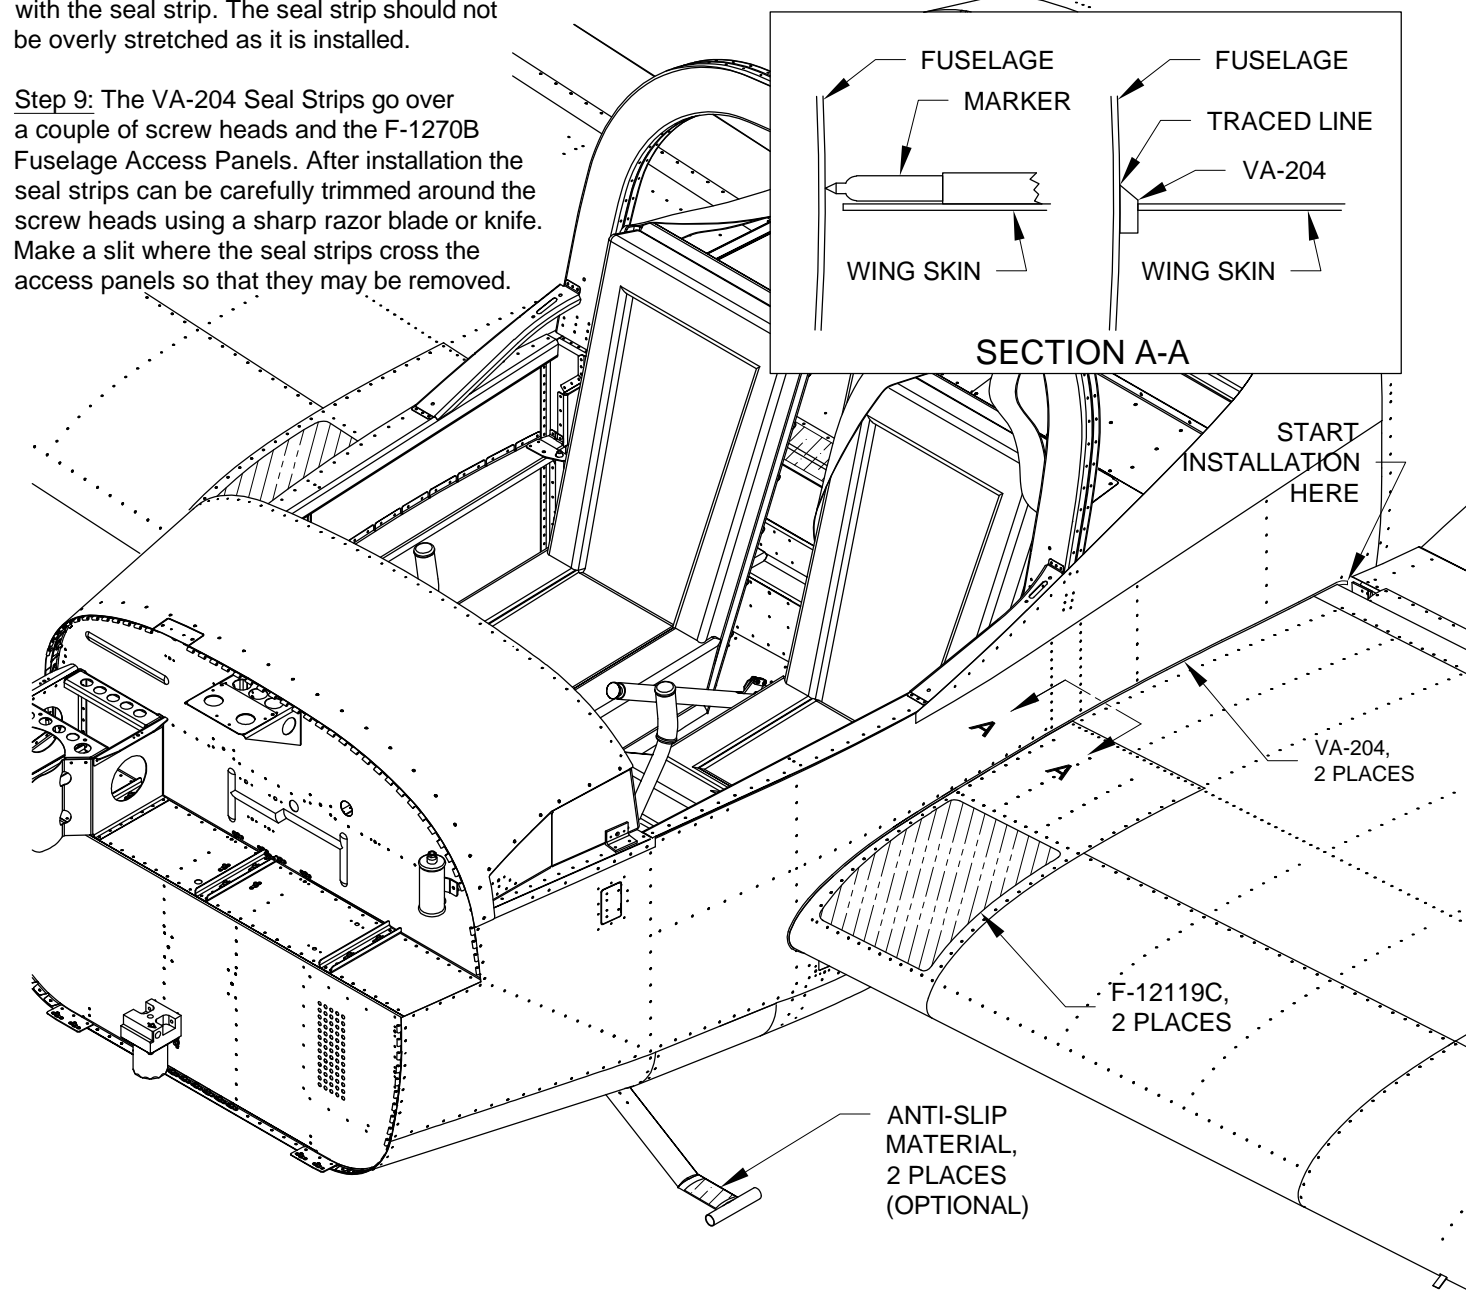

FIGURE 3: WING WALK AND STEPS
Step 6: Apply anti-slip material (approximately 2 inches X 3 inches is needed) to the steps as shown in Figure 3.
Step 7: With the wings installed, take a ultra-fine felt tip marker and, holding the pen body flat against the wing skin, outline each wing, top and bottom, on the side of the fuselage. See Figure 3 Section A-A. To avoid a bumpy outline on the fuselage, mark only between where the rivets on the wing are. This should produce an outline approximately 1/4 inch outside of where the wing meets the fuselage. Make a mark at the top and bottom skins trailing edges to show where the seal starts and ends. Remove the wings.
Step 8: Align the beveled edge of the VA-204 Seal Strip with the outline traced on the side of the fuselage so that it just covers the line as shown in Figure 3 Section A-A. Care should be taken to make a smooth curve with the seal strip. The seal strip should not be overly stretched as it is installed.